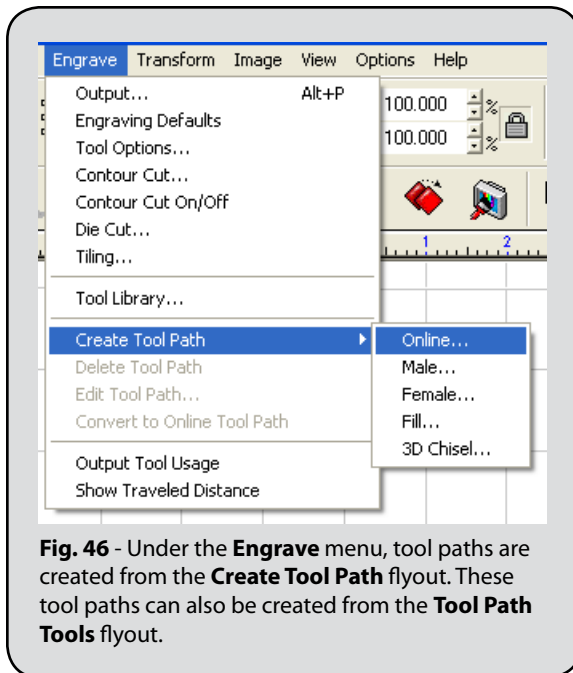

Fig. 46 - Under the **Engrave** menu, tool paths are created from the **Create Tool Path** flyout. These tool paths can also be created from the **Tool Path Tools** flyout.
3. Select the text shape, and then create an **Online** tool path from the **Engrave** menu (Fig. 46).